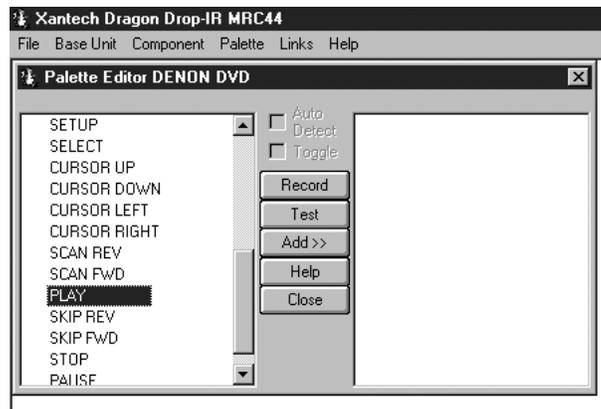

Figure 16 – Source FUNCTION selection in Palette Editor
4. The Palette Editor will now be open to the "Brand" & "Component" selected. A list of FUNCTIONS for that type of component will appear as shown in **Figure 16**. (See later sections for adding functions).